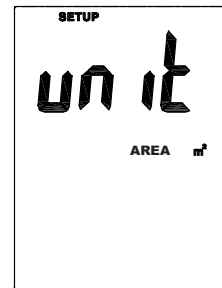

Fig. 2
1. While in Setup mode, press **UNIT ▲** or **UNIT ▼** button to scroll to the area unit screen (refer to Fig. 2).
1. While in Setup mode, press **UNIT ▲** or **UNIT ▼** button to scroll to the AREA unit screen (refer to Fig. 2).